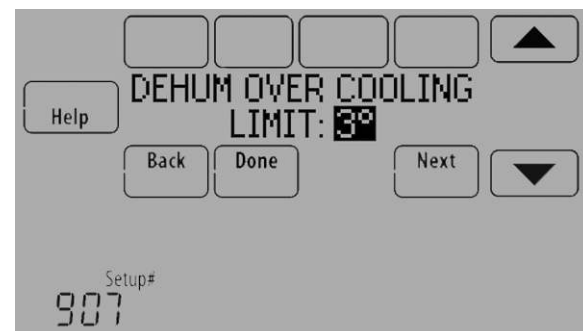

Fig. 193.
6. Set the Overcooling Limit. See Fig. 193. Options: